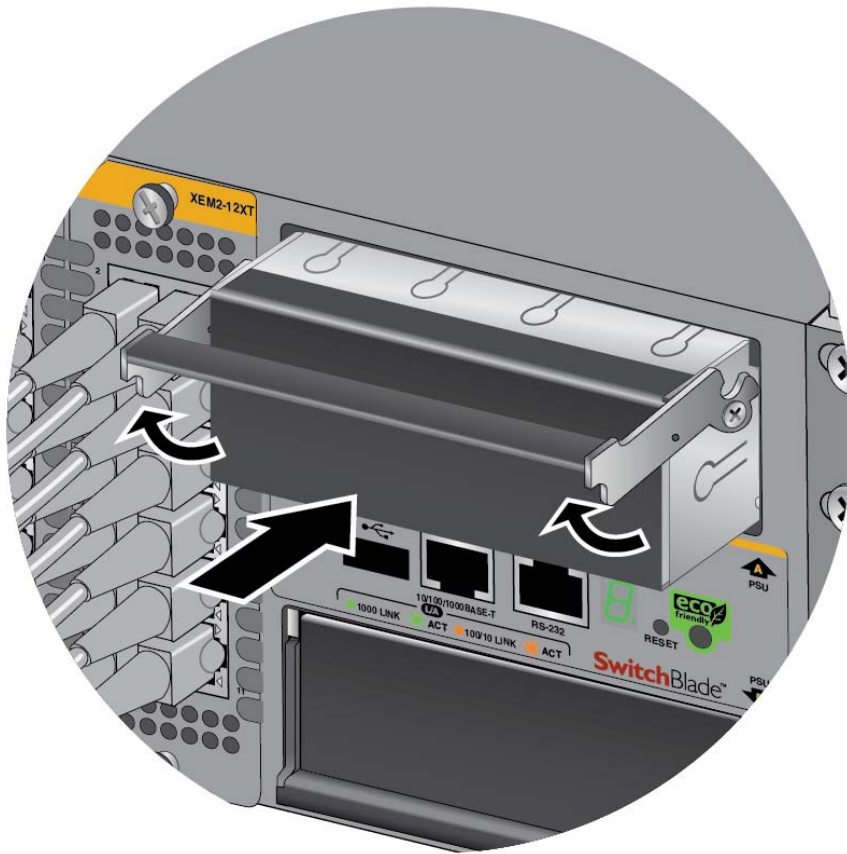

Figure 116. Installing the Blank Power Supply Slot Cover
13. Place the locking handle on the blank power supply slot cover in the up position and slide the cover into the empty power supply slot. Refer to Figure 116 on page 158.